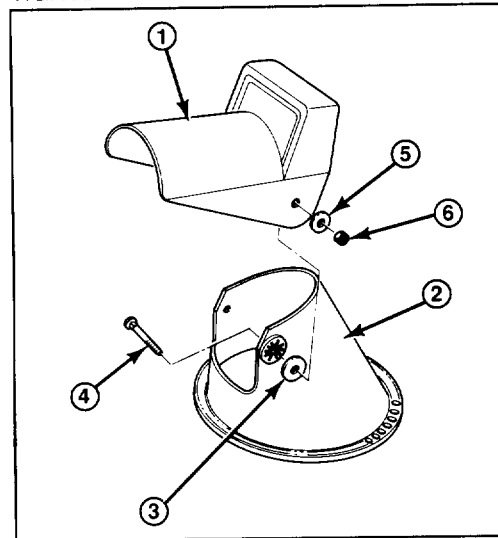

Figure 3
INSTALL DISCHARGE CHUTE (Fig. 3)
2. Secure deflector to discharge chute with (2) carriage bolts, metal washers, and locknuts. Make sure the square shoulders on the carriage bolts align with the square on the chute. Position bolt heads inside chute and metal washers to the outside of deflector as shown in Figure 3. **DO NOT OVERTIGHTEN BOLTS.**